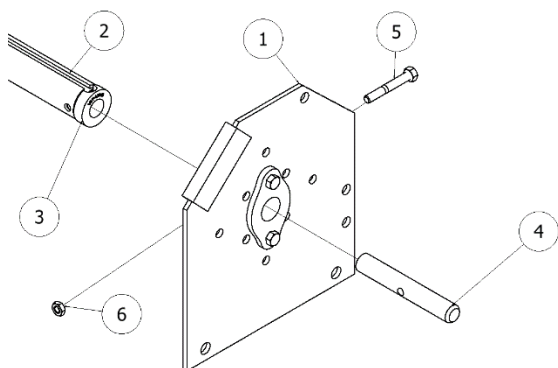

Figure 1.8
Line the tarp axle (2) up with the axle bearing on the passenger side. Slide the spool shaft (4) through the axle bearing and into the plastic axle cap (3) which is in the tarp axle. Line up the holes on the tarp axle, axle cap, and spool shaft and secure them using a 5/16" x 2-1/4" bolt (5) and 5/16" nut (6). Tighten the set screw in the axle bearing sleeve. (Figure 1.8)